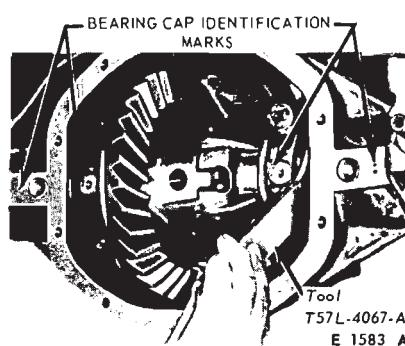

FIG. 22—Bearing Cap Installation
14. Carefully position the bearing caps on the carrier casting. Match the marks made when the caps were removed (Fig. 22).
15. Install the bearing cap bolts and lockwashers. As the bolts are tightened, turn the adjusting nut with the tool shown in Fig. 22.